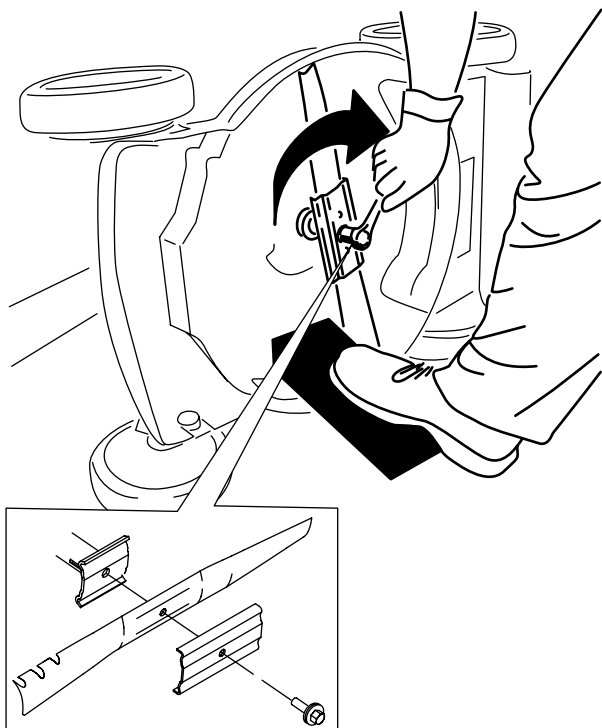

Figure 30
5. Install the new blade and all mounting hardware (Figure 30).